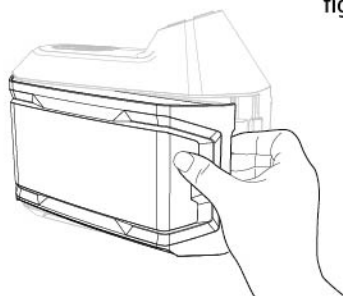

fig.3b
- To remove the blower cover, insert your fingertip into the groove and pull the cover sideways and outward while firmly holding it with your thumb (Fig.3b).